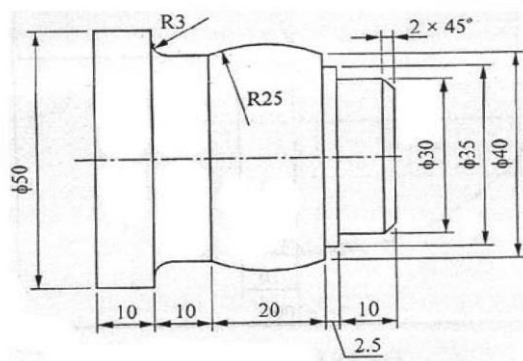

Fig. 2
9. Write CNC program using G and M codes to turn the component shown in fig. 2 having Stock size is $\phi 50 \text{ mm}$. Use canned cycles wherever applicable. Assume suitable data for speed and feed.